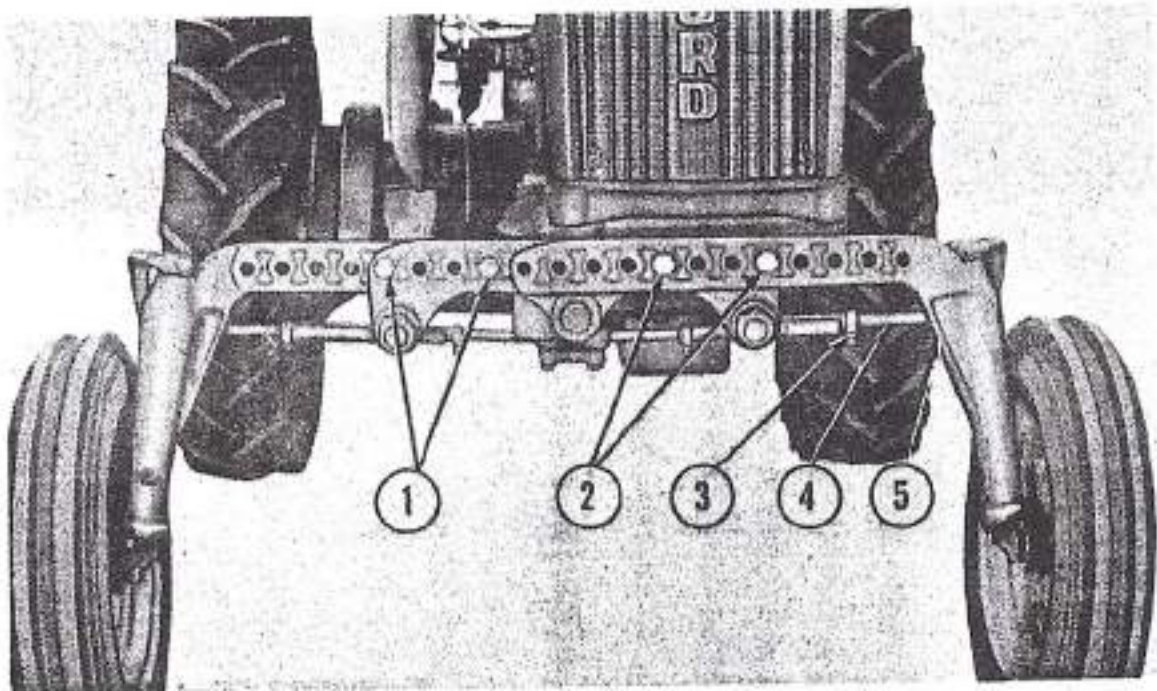

Figure 5
Front Wheels: The front wheel tread adjustment for the offset tractor can be varied from 40" to 78" in approximately 4" spacings. To change the tread width, place a jack under the forward end of the transmission housing and lift the front wheels off the ground. Adjust the left axle section first, by removing the two hex head bolts (2), Figure 5, that secure the axle half to the center axle. Then, remove the connecting rod square head set screw (3). Position the axle half in or out to obtain the desired spacing. Replace the hex head axle bolts (2), making sure there are at least two holes between each bolt. Do not install or tighten the nuts at this time. Position the right axle half to the desired spacing and install the two bolts (1), shipped in the tool box.
Toe-in adjustment is accomplished by loosening the spindle connecting rod clamp bolts (5), Figure 5, and the set screw (3). Lengthen or shorten the connecting rods (4), by turning them. Correct toe-in is obtained when the tread width at the front of the front tires is $\frac{1}{4}$ " less than the tread width at the rear of the front tires when measured at hub height. When adjusting toe-in, always make certain both rods are the same length by measuring and comparing the rod lengths. Tighten the clamp bolts (5), and set screws (3), securely.